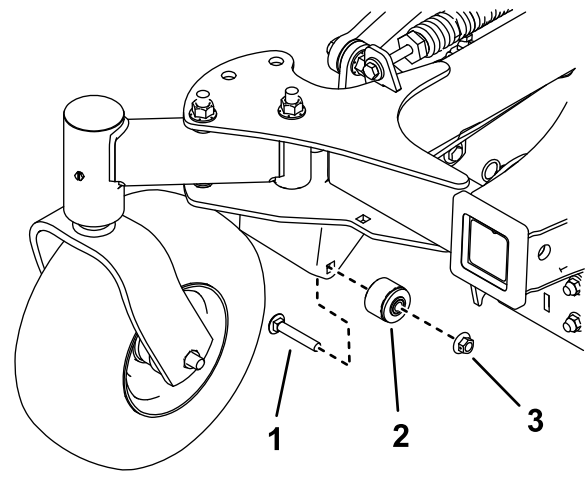

Figure 25
- Remove both bushing assemblies (Figure 25).